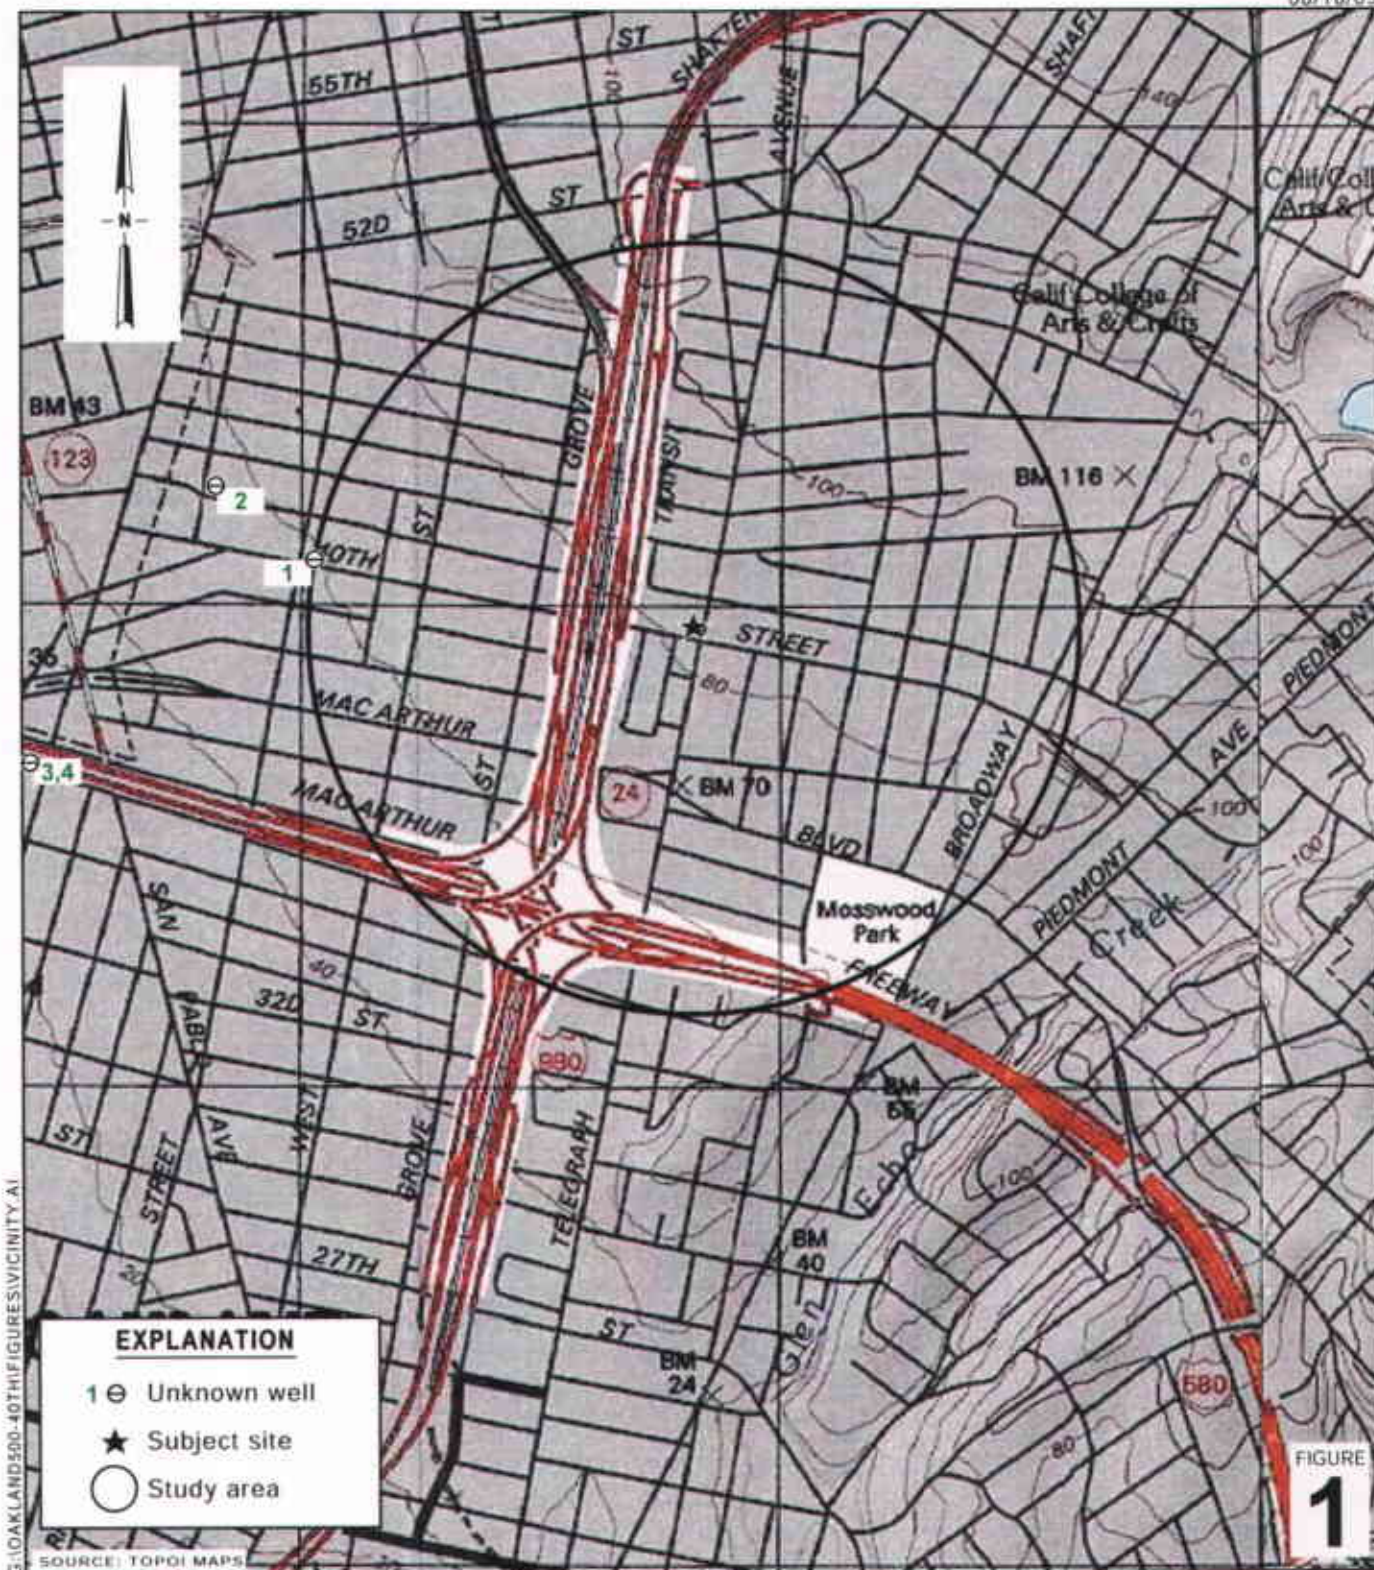

Figures: 1 - Vicinity/Area Well Survey Map
**Site Description:** The site is located at the northeastern corner of the 40th Street and Telegraph Avenue intersection in Oakland, California (Figure 1 and 2). The site, a former Shell Service Station which discontinued operation in 1986, is currently developed as a commercial shopping center. The land use surrounding the site is mixed commercial and residential.